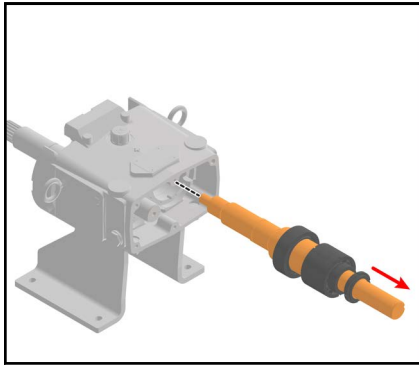

Figure 267 - Pull drive shaft out of gear case
- Pull the drive shaft out of the gear case as shown in Figure 267